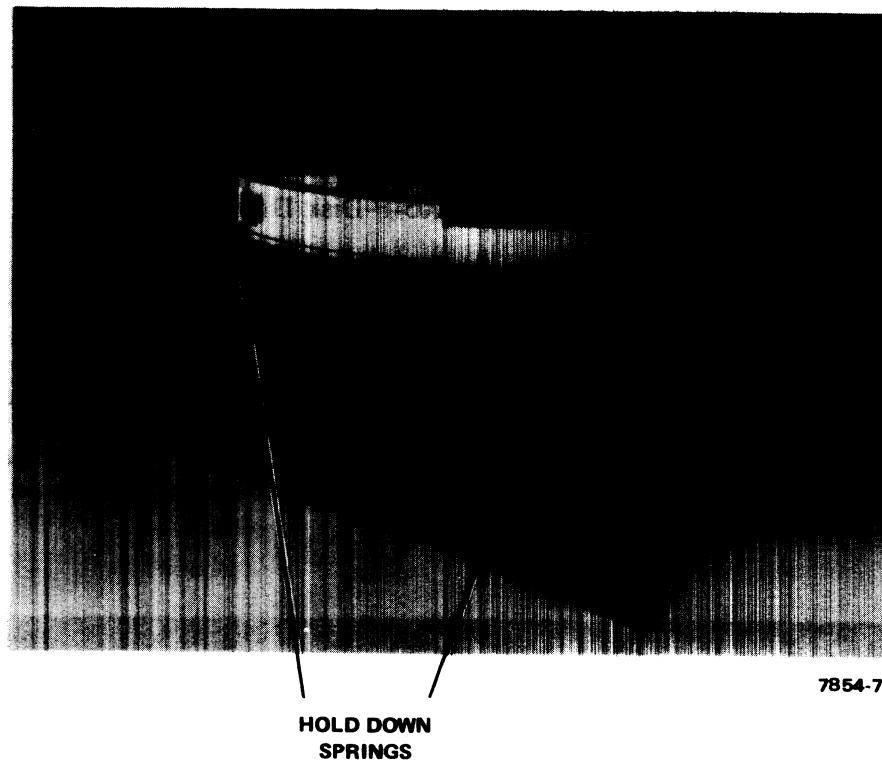

Figure 2-6 RK05-F Cartridge Installed
5. Carefully guide the cartridge into position in the duckbill and over the cartridge-support posts. Hook the springs under the front lip of the base casting (Figure 2-6). Do not over-stretch the springs when installing or removing cartridges.